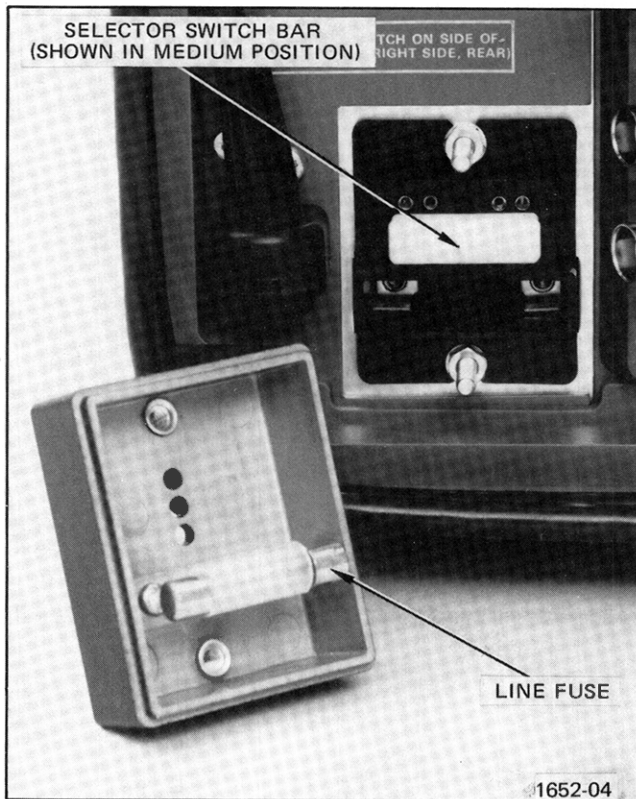

Fig. 2-1. Regulating range selector and line fuse.
3. Pull out the range selector switch bar (see Fig. 2-1). Select a range from Table 2-1 that is centered about the average line voltage. Slide the bar to the desired position and plug it in. Push the cover on and tighten the screws.
**51. LINE FUSE HOLDER**—Contains the line fuse and the regulating range selector. See Fig. 2-1 for change information.
**52. REGULATING RANGE SELECTOR**—Shown in Medium regulating range. See Fig. 2-1 for change information.